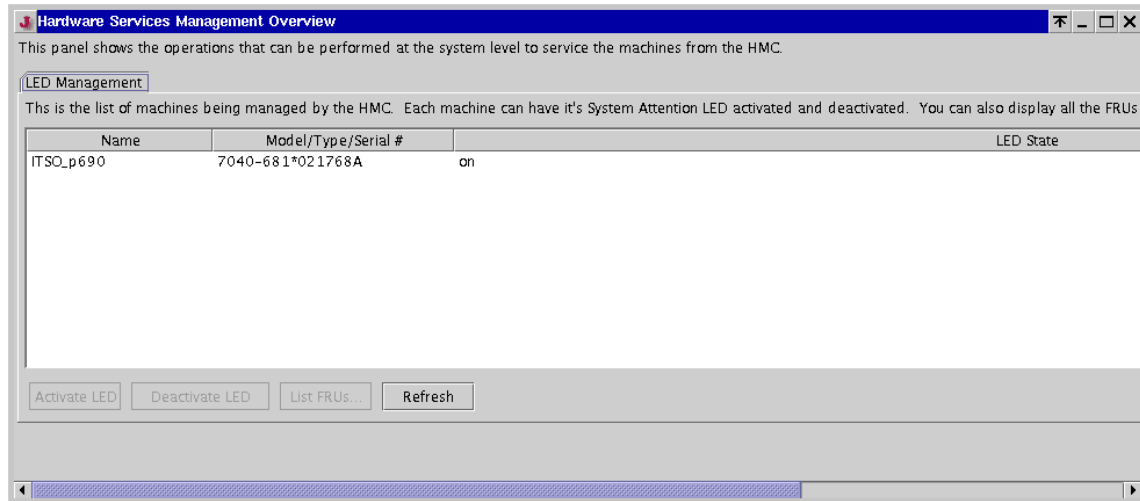

Figure 5-31 Hardware Service Functions overview
- You will see the Hardware Service Management: Overview window, as shown in Figure 5-31. Select the managed system for which you want to check the LED state, then select the **List FRUs** button.